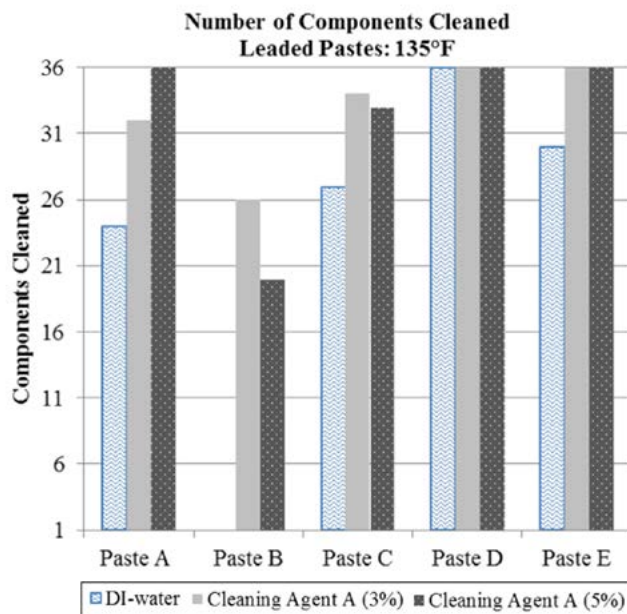

Figure 9: Results - Paste Analysis
- Increasing wash temperature improved cleaning results at both 135°F and 150°F (Figures 9 and 10).
- Completely cleaned surface underneath all components at all temperature scenarios using Pastes D and E. Paste A resulted in underside of all components completely cleaned at 135°F and 150°F temperatures (Figures 9 and 10).